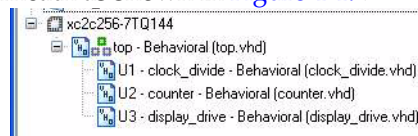

Figure 4-19: Hierarchy in Sources Window
5. **Save** the file. You should now see in the Project Navigator **Sources** window that the source files are ordered in a hierarchy. Top .vhd is the top level and the other three modules all sit underneath as shown in Figure 4-19.